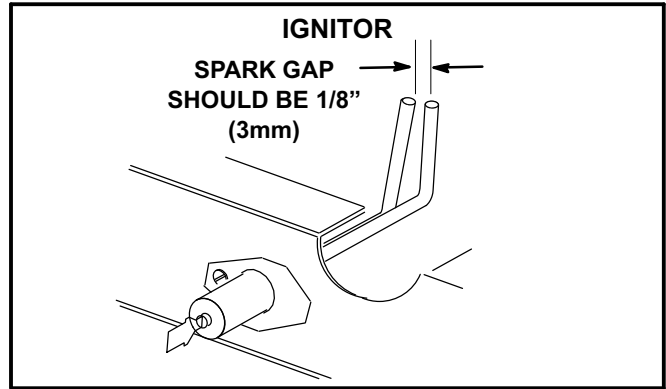

FIGURE 21
- 4- Locate the ignitor under the left burners. Check ignitor spark gap with appropriately sized twist drills or feeler gauges. See figure 21.